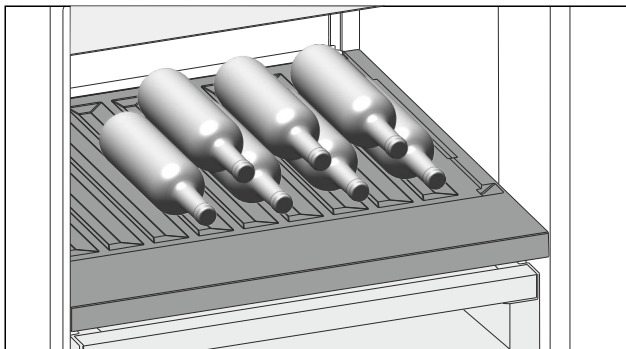

Fig. 133
- ▶ Place bottles in the back row with their bases against the back wall. (see Fig. 133)